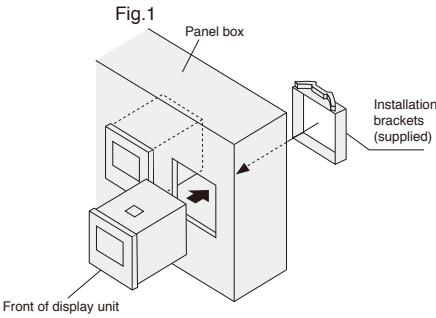

Fig.2 Cut-out dimensions
1. Cut out an opening to match the dimensions shown (Fig.2).